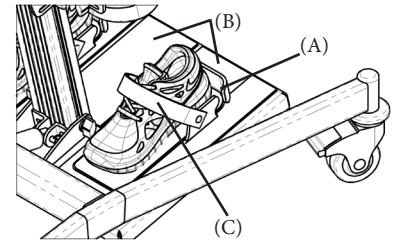

Fig. 11.2.8
The footrests (A) are attached with self-gripping straps (B), allowing them to be moved to the ideal position for the user. Once positioned, detach the self-gripping strap (C) and slide the foot inside the footrest (A). Secure the foot using the self-gripping strap (C) by folding it over the top of the foot near the ankle (Fig. 11.2.8).